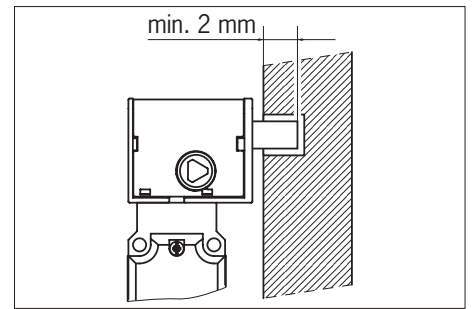

Fig. 1: Locked safety switch TK
The guard locking pin is extended on the activation of the guard locking. Guard locking is achieved by the insertion of the guard locking pin into a recess on the safety door frame, for example (see Fig. 1).
- The guard locking pin must be inserted by at least 2 mm (see Fig. 1).